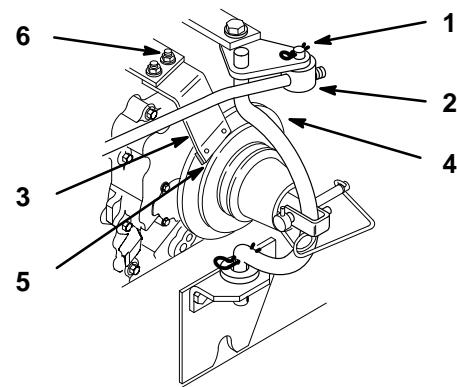

Figure 31
3. To adjust clutch, remove hairpin cotter and thread trunnion onto rod one turn at a time until there is moderate resistance as the clutch engages and clutch slippage is eliminated (Fig. 31).
4. To adjust brake, engage PTO clutch and loosen (2) adjustment nuts (Fig. 31).
5. Place a 0.012 (0.3 mm) feeler gauge between brake pad and clutch pulley. Holding brake pad against feeler gauge tighten adjusting nuts (Fig. 31).